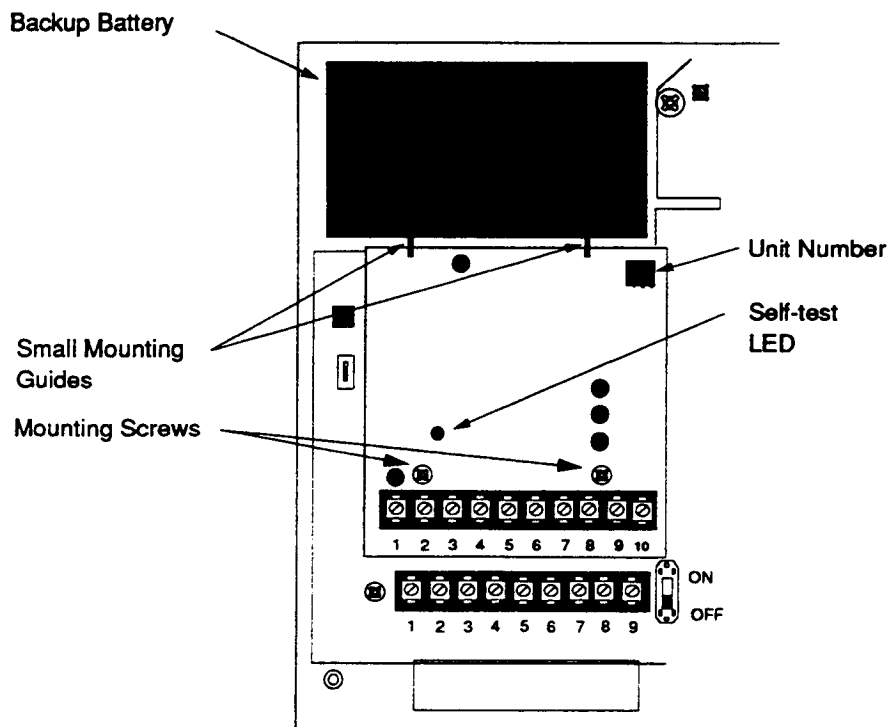

Figure 1. Installing the FEM on the CPU.
3. Align notches on the FEM circuit board with the small metal guides on the system chassis, then align plated holes on the circuit board with standoffs. (See Figure 1).